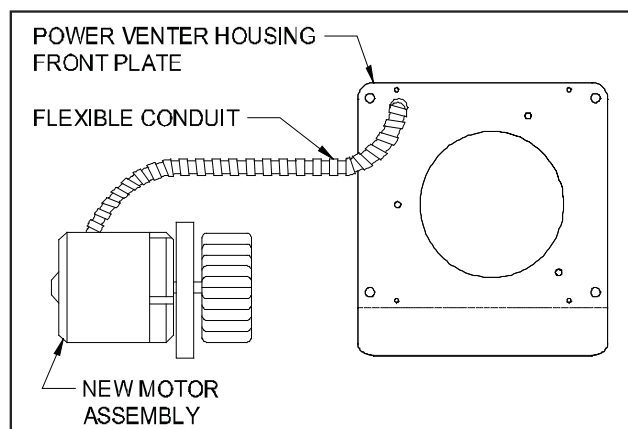

Figure 5
1. Insert the blower wheel into the hole in the front plate of the venter housing. (See Figure 5)